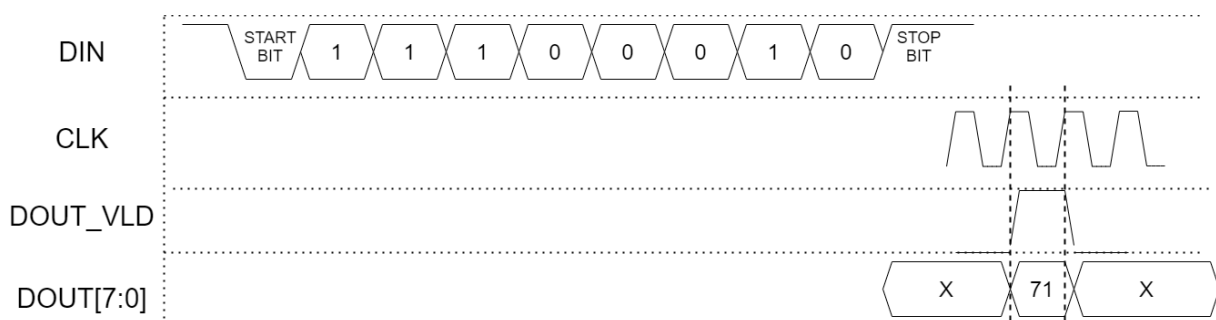

Figure 3. Example of time course on inputs and outputs of UART_RX circuit
- The circuit will receive individual bits on the DIN input port, perform their deserialization and write the resulting 8-bit word to the DOUT port. Confirm the validity of the data word on the DOUT port by setting the DOUT_VLD signal to the log level. 1 for one clock cycle of the CLK clock signal. An example of a timing diagram showing the expected waveform of the signals on the input / output ports of the UART_RX component is shown in Figure 3.